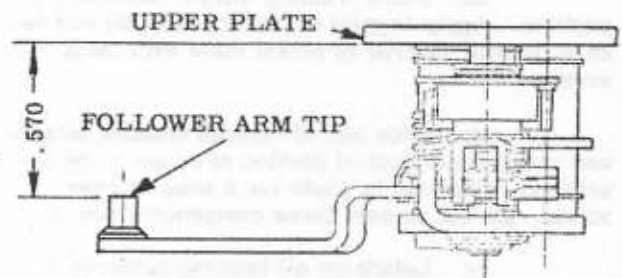

Figure 1-10B. FOLLOWER ARM SETTING
1. Place shim between hub (13) and upper plate. If shim does not fit between hub and plate or if there is more than 0.003" (thickness of shim) between hub and plate, loosen screw (14) and set hub 0.003" above plate. Tighten screw and remove shim.
2. Place shim between hub of latch assembly and upper plate. If shim does not fit between hub and plate or if there is more than 0.003" (thickness of shim) between hub and plate, loosen screw (20) and set hub 0.003" above plate. Tighten screw and remove shim.
3. Place shim between hub of infinity stop lever and lower plate. If shim does not fit between hub and plate or if there is more than 0.003" (thickness of shim) between hub and plate, loosen screw (19) and set hub 0.003" above plate. Tighten screw and remove shim.
v. Using a height gage or depth micrometer, measure distance from tip of follower arm to bottom of upper plate. Distance must be 0.570" as shown in figure 1-10B. If distance is not at this dimension, proceed as follows: